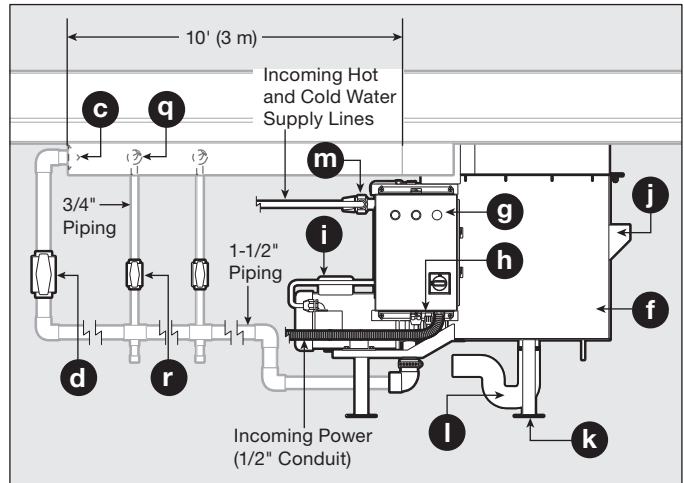
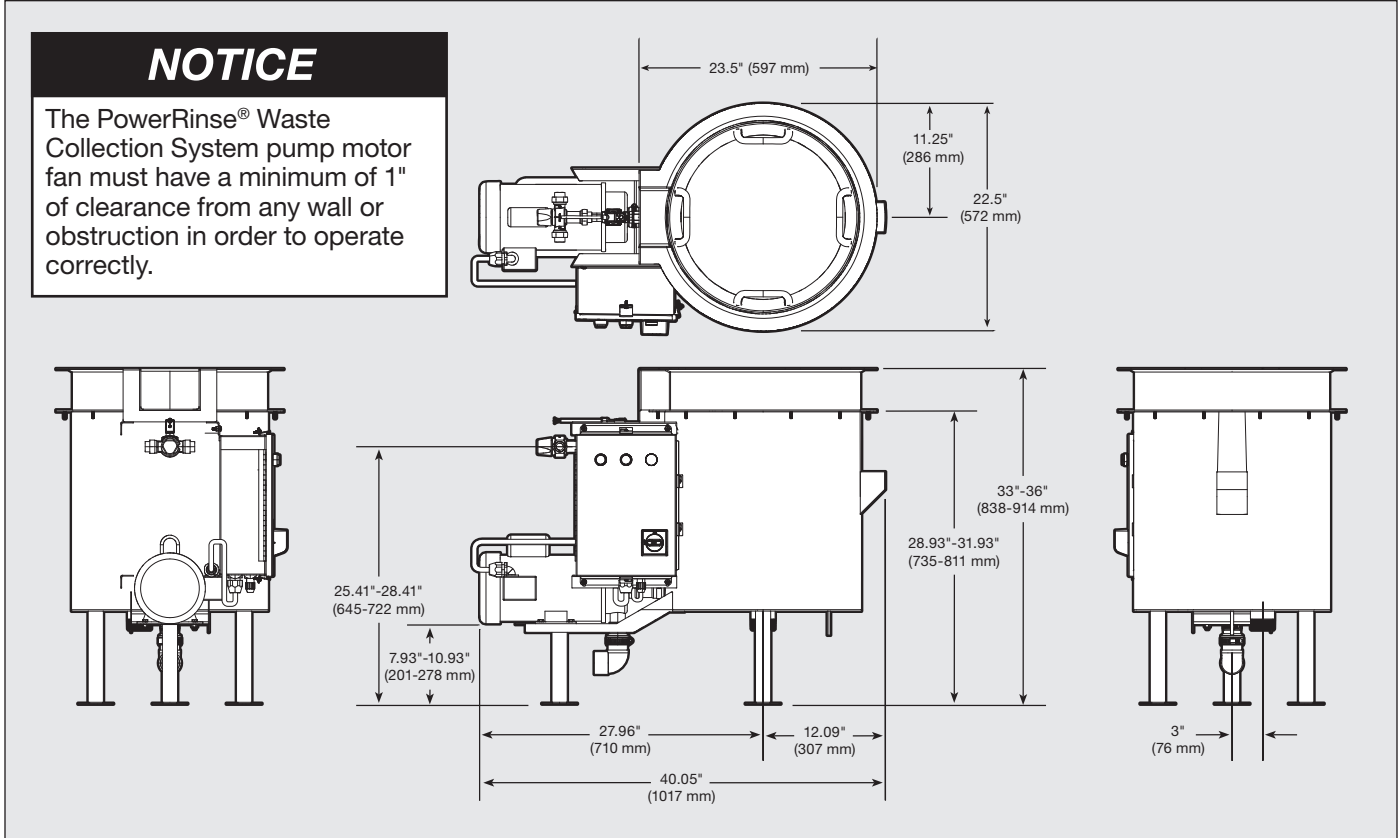

Figure 3. Typical Installation
Figure 5. PowerRinse® Waste Collection System Dimensions
The PowerRinse Waste Collection System is CUL® US Listed when installed in conjunction with InSinkEerator pumps and controls, and per the installation instructions in this Installation, Care, and Use Manual (see Figures 3 and 4 for typical installations).
- e. Waste Collector Base Assembly (see Figure 3)
Figures 3 and 4 illustrate the typical installation of the PowerRinse® Waste Collection System. For a complete list of system components refer to the System Components list located to the left of Figure 3. See Figure 5 on next page for system dimensions.